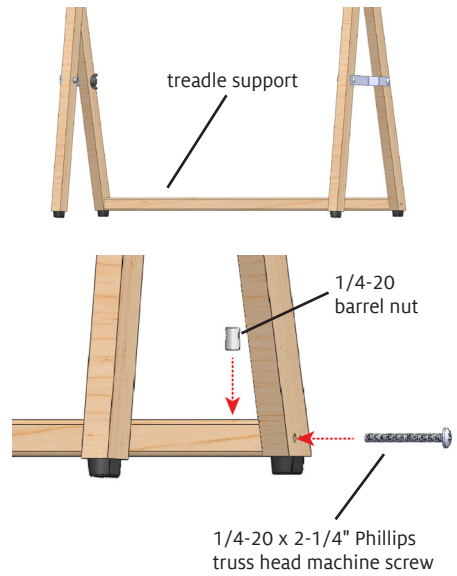

FIGURE 6: ATTACH TREADLE SUPPORT
6. Place the treadle support between the rear legs, with its pins going into holes in the rear legs. Insert 1/4-20 barrel nuts into the holes at each end. From the outer side of the legs, insert 1/4-20 x 2-1/4" Phillips truss head machine screws into the barrel nuts (Figure 6). Tighten the screws just enough to hold the stand steady.